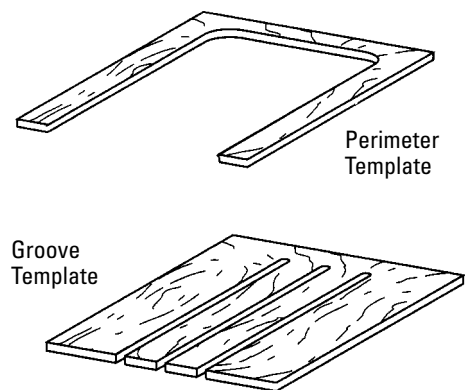

Figure 35
- To resist flexing, use $\frac{3}{4}$ " (19 mm) plywood or MDF to make the template (see Figure 35). Reinforce the sides with metal angle brackets, if desired.